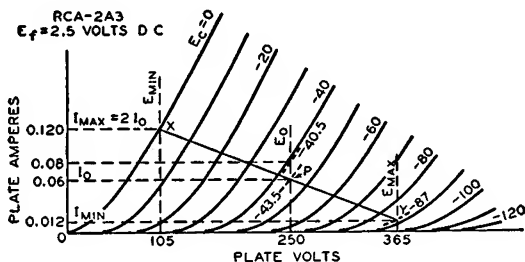

Fig. 21
Calculation of the power output of a triode used as a class A amplifier with either an output transformer or a choke having low dc resistance can be made without serious error from the plate family of curves by assuming a resistance load. The proper plate current, grid bias, optimum load resistance, and per-cent second-harmonic distortion can also be determined. The calculations are made graphically and are illustrated in Fig. 21 for given conditions. The procedure is as follows: (1) Locate the zero-signal bias point P by determining the zero-signal bias  $E_c$  from the formula:
**Example:** Determine the load resistance, power output, and distortion of a triode having an amplification factor of 4.2, a plate-dissipation rating of 15 watts, and plate characteristics curves as shown in Fig. 21. The tube is to be operated at 250 volts on the plate.